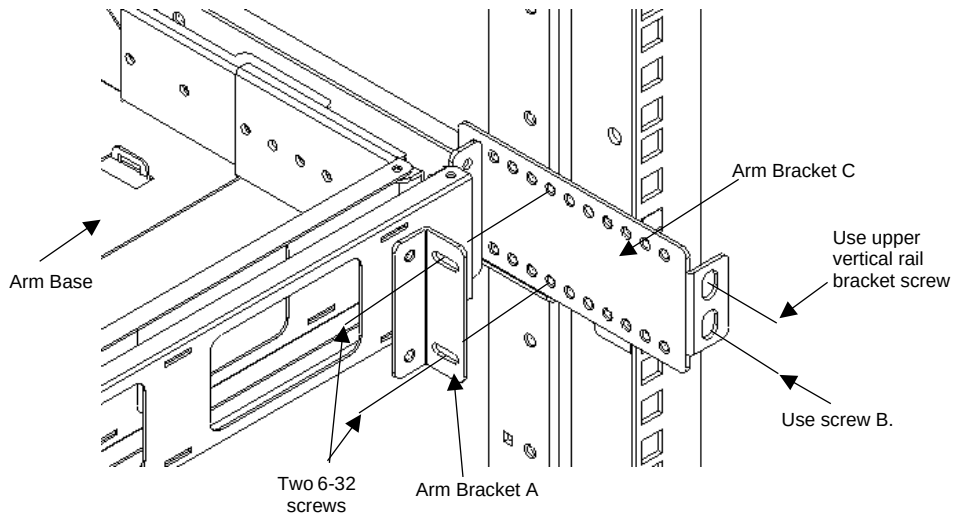

Figure 2-28. Attaching Arm Bracket C and Arm Bracket A
5. Using the upper rail bracket screw and one type B screw (see screw illustrations on page 3), attach Arm Bracket C to the rear cabinet vertical rail. See Figure 2-28.